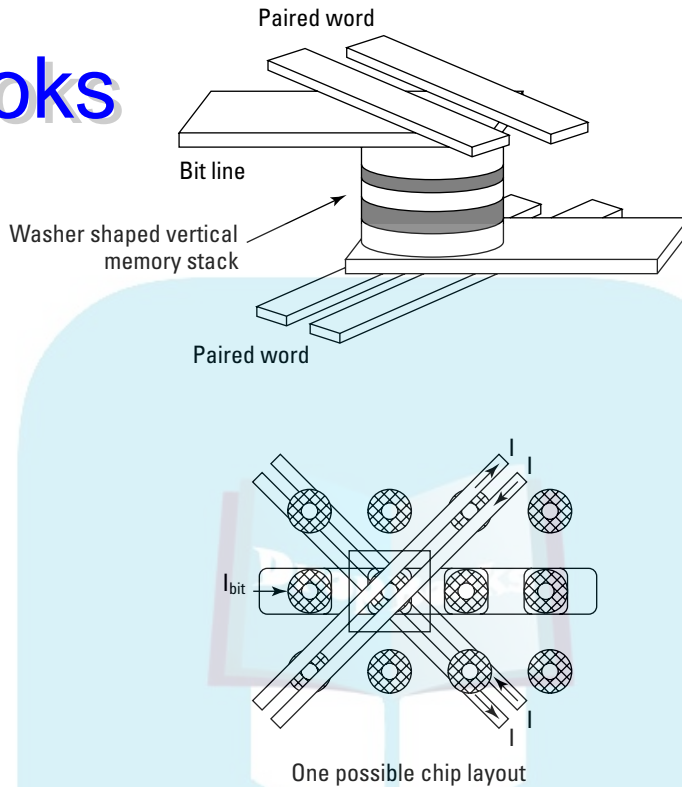

Figure 6-10:
- ✔ The memory cells are formed into an array that consists of a Word line and a Bit line, as in IBM's MRAM architecture (see Figure 6-10).